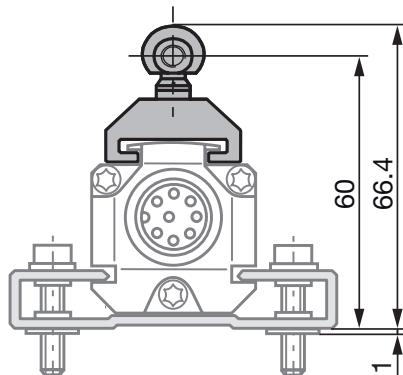
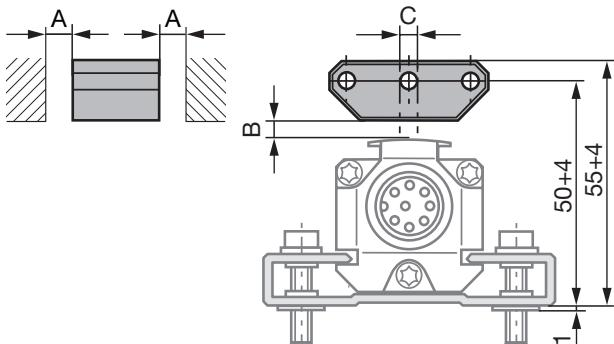

Fig. 4-1: Dimensions and distances with BTL5-F-2814-1S magnet
Fig. 4-4: Dimensions and distances with BTL5-P-3800-2 magnet
- i** The micropulse transducer in profile housing is suitable both for floating, i.e. non-contacting magnets (see Figures 4-4 to 4-8) and for captive magnets (see Figures 4-1 to 4-3).
- Ensure that the distance A between parts made of magnetizable material and the magnet is at least 10 mm (see Figures 4-4 to 4-8).
- Maintain the following values for distance B between the magnet and transducer and for center offset C (see Figures 4-4 to 4-8):